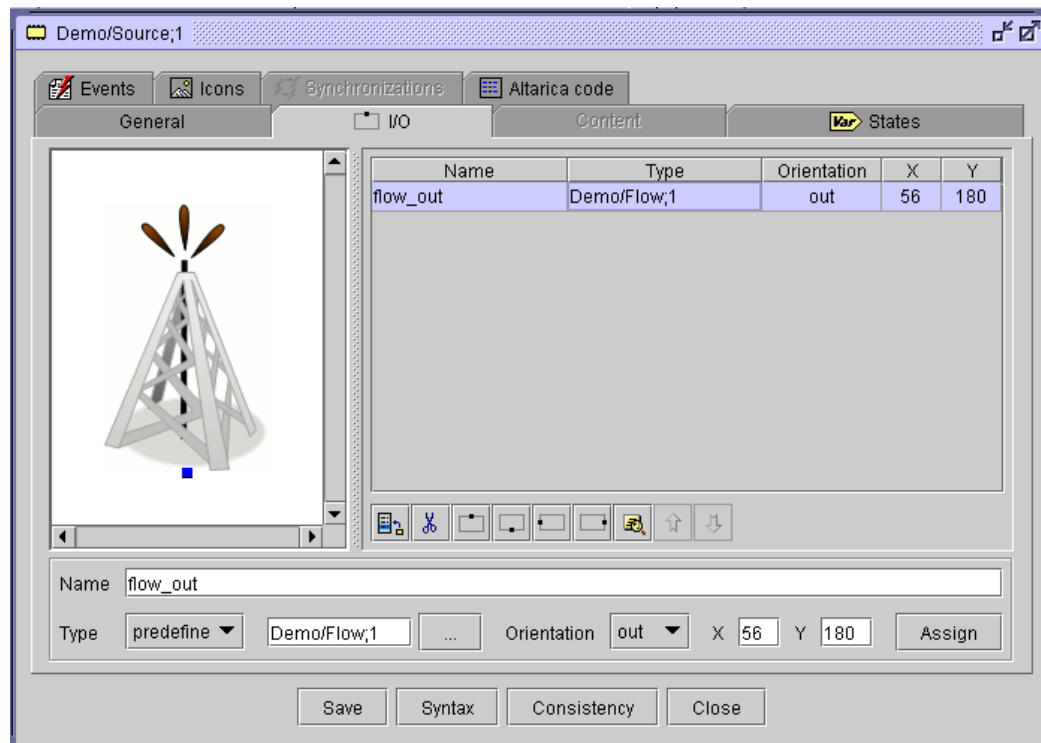

Figure 76 : I/O tab – Predefined variable
- * **predefine**: predefined type created in library (Figure 76)
- * **predefine**: predefined type in library (Figure 76).